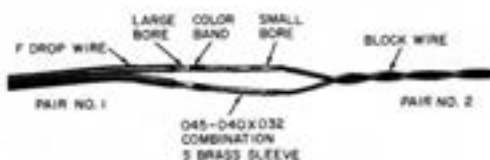

Fig. 11—Sleeves Installed (Drop to Block)
- (1) Prepare the ends of drop wire (pair No. 1) and the ends of block wire (pair No. 2) as described in Parts 3 and 4.
- (2) Match tracer conductors and insert skinned ends of pairs 1 and 2 into the proper bores of 045-040 × 032 combination S brass sleeves. Crimp the sleeves slightly with diagonal pliers to restrain the conductors from slipping out.
- (3) Starting 1/16 inch from one end of a sleeve, press each sleeve four times with the sleeve presser. See Fig. 11.